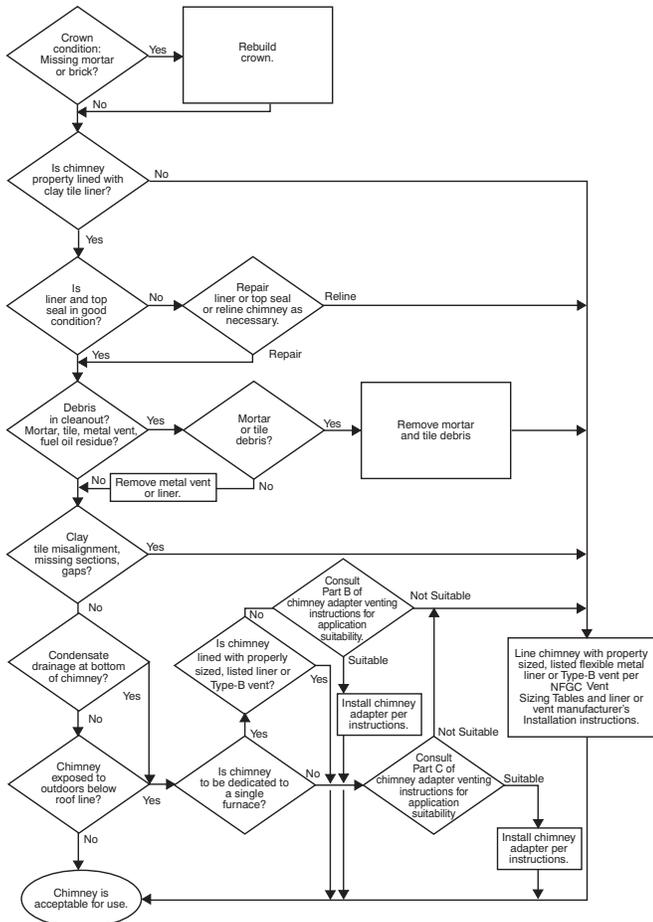

Fig. 29 – Chimney Inspection Chart
6. Do not vent this appliance into an unlined masonry chimney. (Refer to Chimney Inspection Chart, Fig. 29).
Inspections before the sale and at the time of installation will determine the acceptability of the chimney or the need for repair and/or (re)lining. Refer to the Fig. 29 to perform a chimney inspection. If the inspection of a previously used tile-lined chimney: